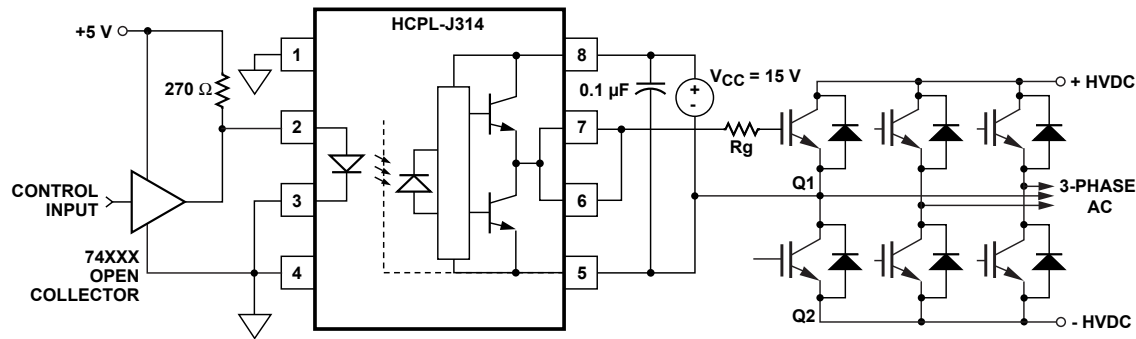
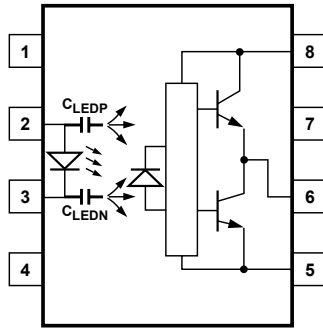
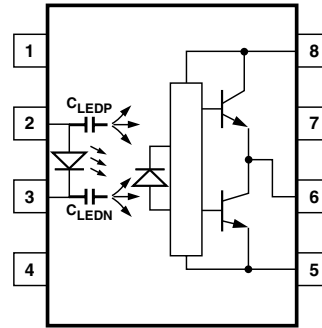
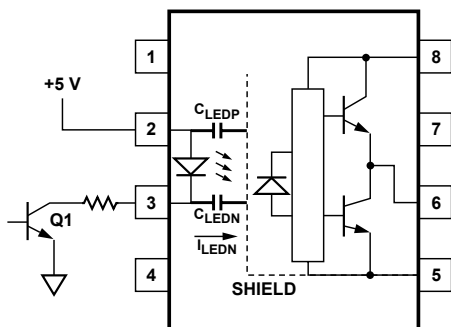

Figure 19. Recommended LED drive and application circuit for HCPL-J314.
Figure 21. Optocoupler input to output capacitance model for unshielded optocouplers.
Figure 22. Optocoupler input to output capacitance model for shielded optocouplers.
Figure 24. Not recommended open collector drive circuit.
To keep the IGBT firmly off, the HCPL-J314 has a very low maximum V_{OL} specification of 1.0 V. Minimizing R_g and the lead inductance from the HCPL-J314 to the IGBT gate and emitter (possibly by mounting the HCPL-J314 on a small PC board directly above the IGBT) can eliminate the need for negative IGBT gate drive in many applications as shown in Figure 19. Care should be taken with such a PC board design to avoid routing the IGBT collector or
Step 1: Calculate R_g minimum from the I_{OL} peak specification. The IGBT and R_g in Figure 19 can be analyzed as a simple RC circuit with a voltage supplied by the HCPL-J314.
where $K_{ICC} \cdot Q_g \cdot f$ is the increase in I_{CC} due to switching and K_{ICC} is a constant of 0.001 mA/(nC·kHz). For the circuit in Figure 19 with I_F (worst case) = 10 mA, $R_g = 32\ \Omega$, Max Duty Cycle = 80%, $Q_g = 100\text{ nC}$, $f = 20\text{ kHz}$ and $T_{AMAX} = 85^\circ\text{C}$:
Without a detector shield, the dominant cause of optocoupler CMR failure is capacitive coupling from the input side of the optocoupler, through the package, to the detector IC as shown in Figure 21. The HCPL-J314 improves CMR performance by using a detector IC with an optically transparent Faraday shield, which diverts the capacitively coupled current away from the sensitive IC circuitry. However, this shield does not eliminate the capacitive coupling between the LED and optocoupler pins 5-8 as shown in Figure 22. This capacitive coupling causes perturbations in the LED current during common mode transients and becomes the major source of CMR failures for a shielded optocoupler. The main design objective of a high CMR LED drive circuit becomes keeping the LED in the proper state (on or off) during common mode transients. For example, the recommended application circuit (Figure 19), can achieve 10 kV/μs CMR while minimizing component complexity.
The open collector drive circuit, shown in Figure 24, can not keep the LED off during a $+dV_{CM}/dt$ transient, since all the current flowing through C_{LEDN} must be supplied by the LED, and it is not recommended for applications requiring ultra high CMR1 performance. The alternative drive circuit which like the recommended application circuit (Figure 19), does achieve ultra high CMR performance by shunting the LED in the off state.